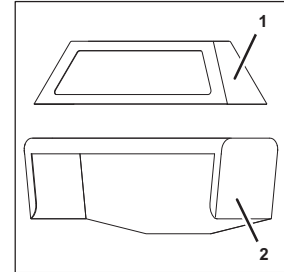

Fig. 24
4. Lift and remove the taxi cab hood (Fig. 24/1) from the hood (Fig. 24/2).
10. Position the new taxi cab hood (Fig. 24/1) on the hood (Fig. 24/2).